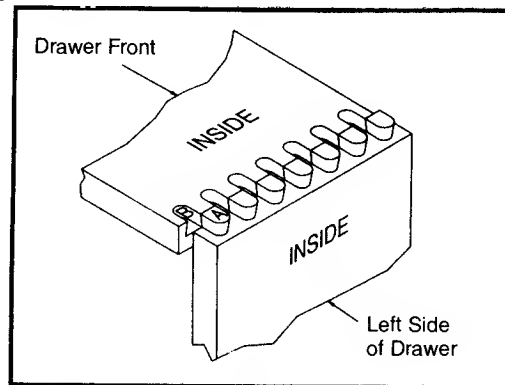

Fig. 11
7. Remove drawer pieces and fit together, matching dovetail (A) with slot (B), Fig. 11.